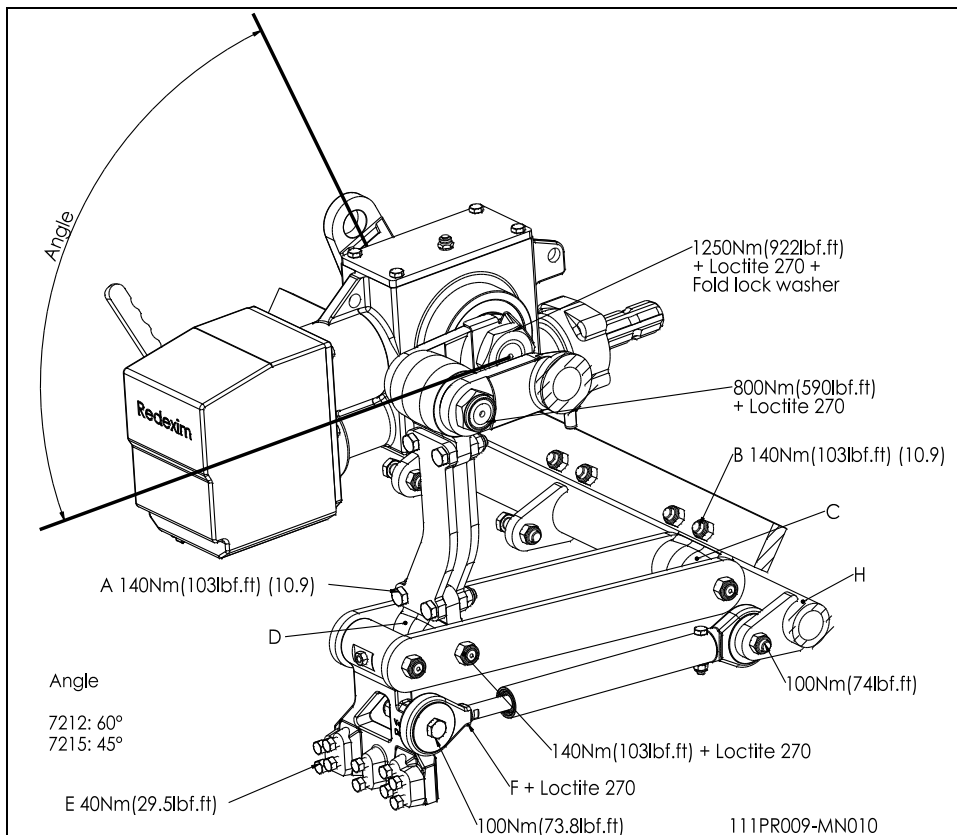

Fig.8
In fig.8., the torque settings of the most important bolts/nuts are given. For the ones the torque setting is not mentioned, please be sure that they are tightened as a similar size bolt/nut would be tightened. If bolts/nuts are working themselves loose, Loctite may be applied.
6. After replacing the crank and/or bearing, replace the parts in the same sequence as they were removed. Use Loctite were indicated in fig.8.
In the event that an element is no longer in line with the adjacent elements, the alignment can be corrected as follows (see fig.8.):